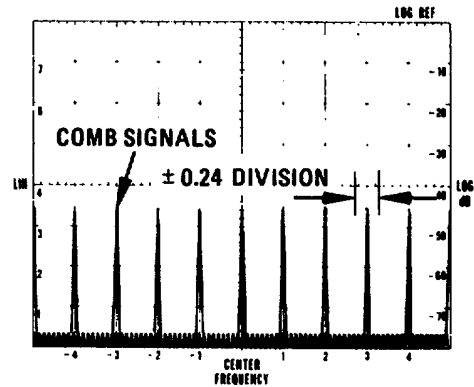

Figure 4-6. Scan Width Accuracy Measurement
2. With control settings as in step 1 above, a comb signal occurs every 10 MHz on the display (see Figure 4-6). Turn FREQUENCY and FINE TUNE to line up a comb signal with the far left graticule line.